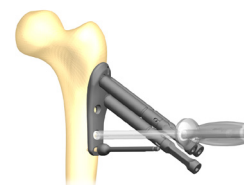

Figure 6d
- Insert a 2.0mm K-Wire or 3.5mm x 18mm PF Pin through the distal provisional fixation slot to hold the plate position in the AP plane and adjust in the lateral plane (Figure 6d).